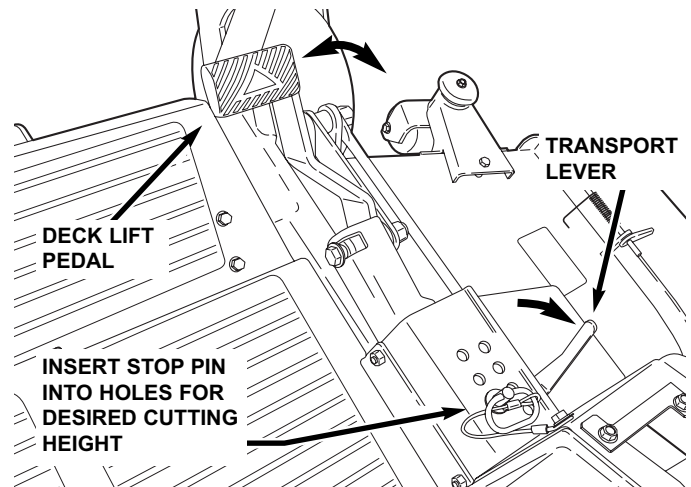

FIGURE 3.3
3.1.8. Place mower in desired cutting height setting. Depress deck lift pedal fully to lock deck in transport position. Insert stop pin to desired cutting height. Depress deck lift pedal while flipping back transport lever, and let up on pedal to lower deck. See Figure 3.3.